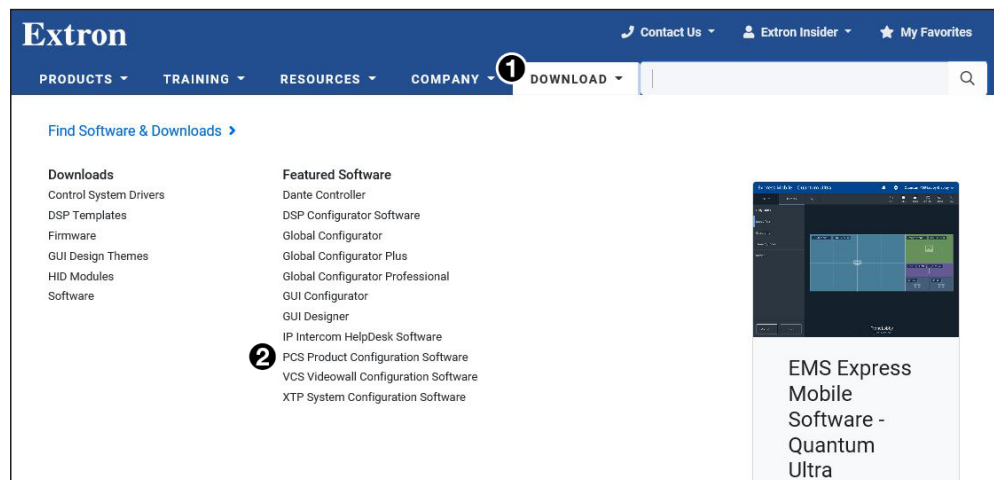

Figure 14. Software Links on Download Screen
1. On www.extron.com, hover the mouse pointer over **Download**, **1** (see figure 14) and select PCS Product Configuration Software **2**.